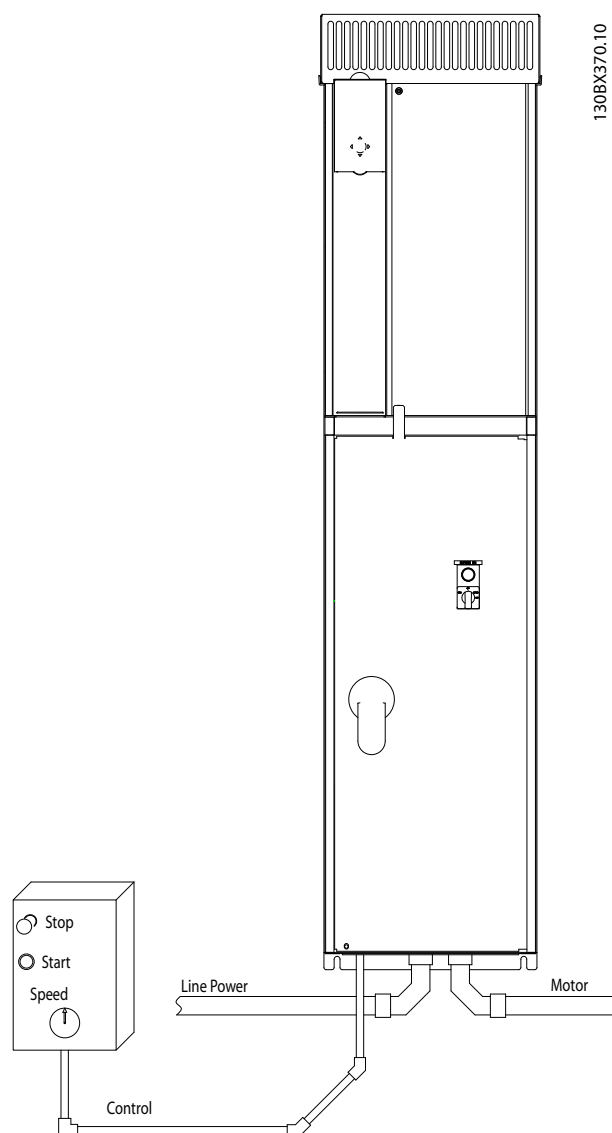

Figure 2.3 Example of Proper Electrical Installation Using Conduit
- Because the motor wiring carries high frequency current, it is important that wiring for line power, motor power, and control is run separately. Use metallic conduit or separated shielded wire. See *Figure 2.3*. Failure to isolate power, motor, and control wiring could result in less than optimum equipment performance.